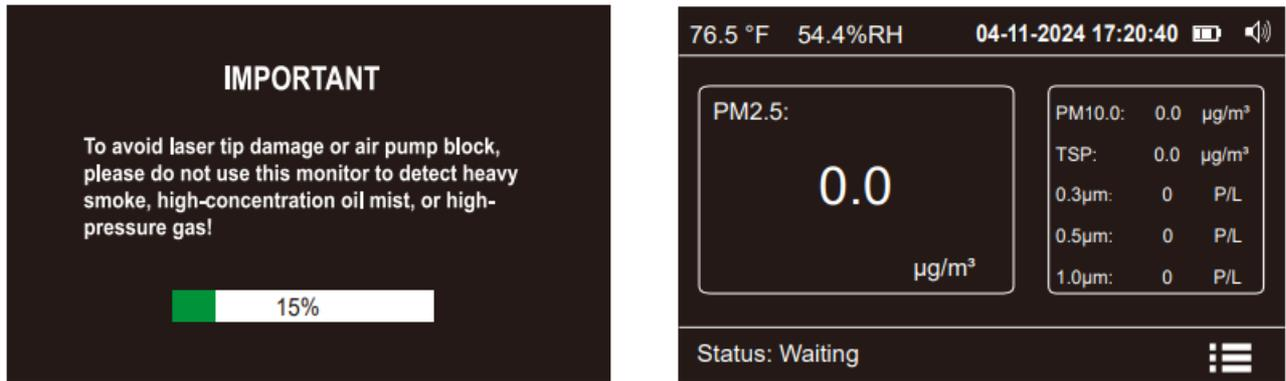

Fig.2
- It will not start the measurement by default to save the power (Fig.2).